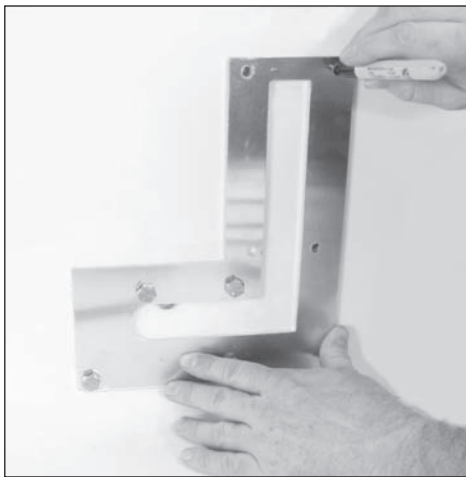

Fig. 9 - Use Cable Routing Plate as Template
1. Temporarily attach the cable routing plate to the front of the door for use as a template, using the lock mounting screws to hold it in place. (See Figure 9.)